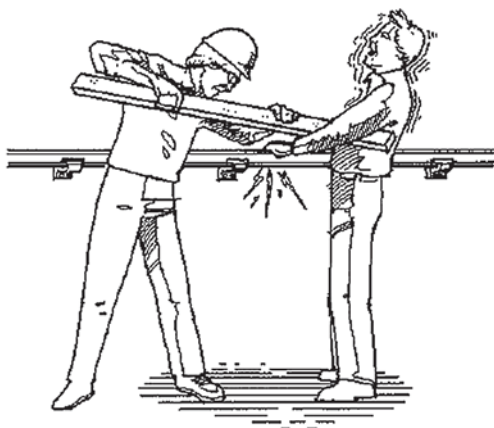

Figure 46 Free victim from contact with live conductor at once, using dry clothing, rope or stick. Don't touch him with your bare hands!
- If cutting the electricity supply is not possible, try to free the victim of electrical shock from contact with the live conductor at once, using a dry stick, dry rope, dry clothing or other nonconductor. *Do not touch him with your bare hands!* (Figure 46)